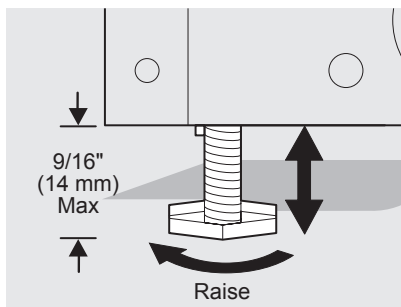

Figure 3
- 3 Use adjustable wrench to adjust leveling screws. Lower the leveling screws on each side clockwise until they contact the floor (Figure 3). Do not raise the cabinet more than $\frac{9}{16}$ inch.